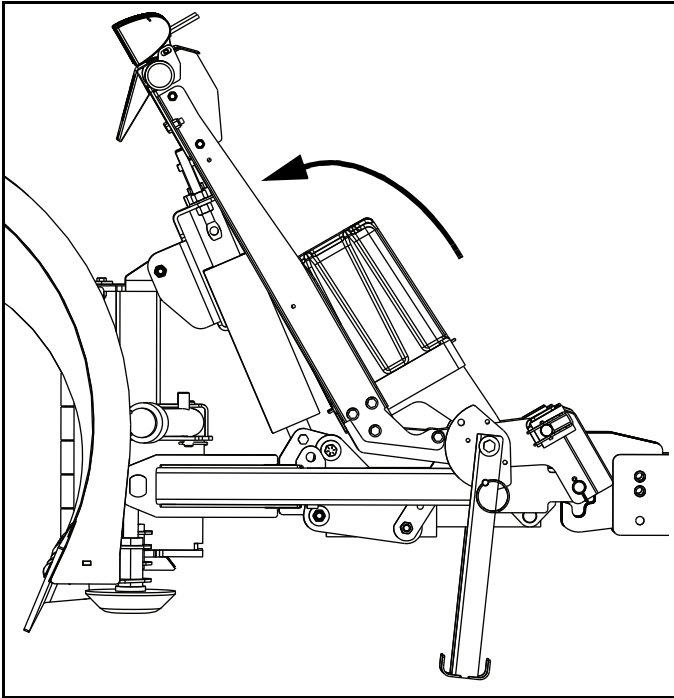

Figure 1-23
6. Rotate jackstand down and raise A-frame by pressing the up button. (See Figure 1-23.)